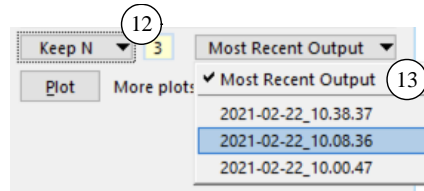

Figure 12. Select which run to view.
- ⑬ Drop-down control to choose which run to view. This control shows all of the runs that are currently available (Figure 12). If only the Last Run is being saved, then this control has only one item: **Most Recent Output**. Otherwise, it lists the runs using the root name for the output files.
When results are retained for multiple simulations made from the same **Run Control** dataset, the files are named according to macros set in the Simfile. By default, the macros use the date and time, as shown in Figure 12. For information about custom naming conventions, please see the **Help** menu document **Reference Manuals > VS Math Models**.